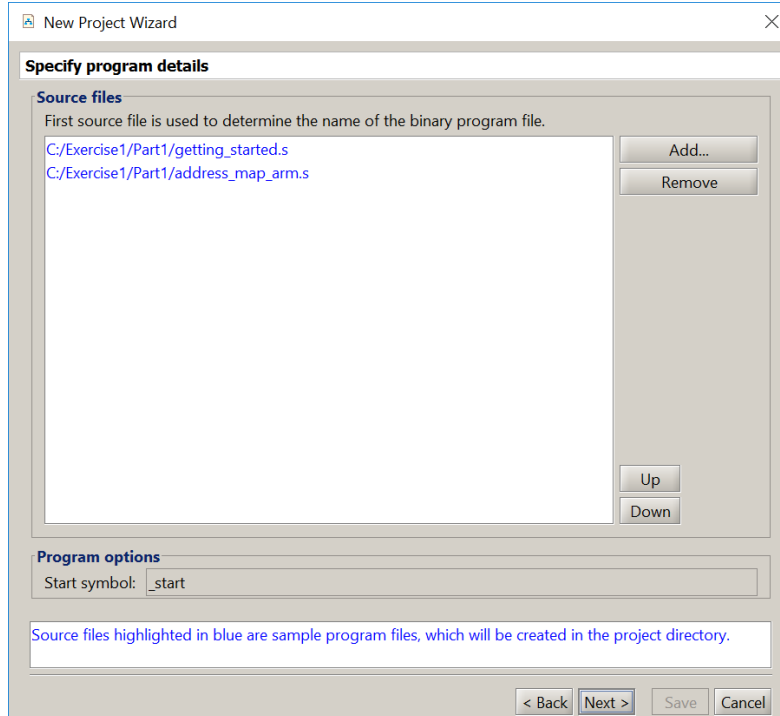
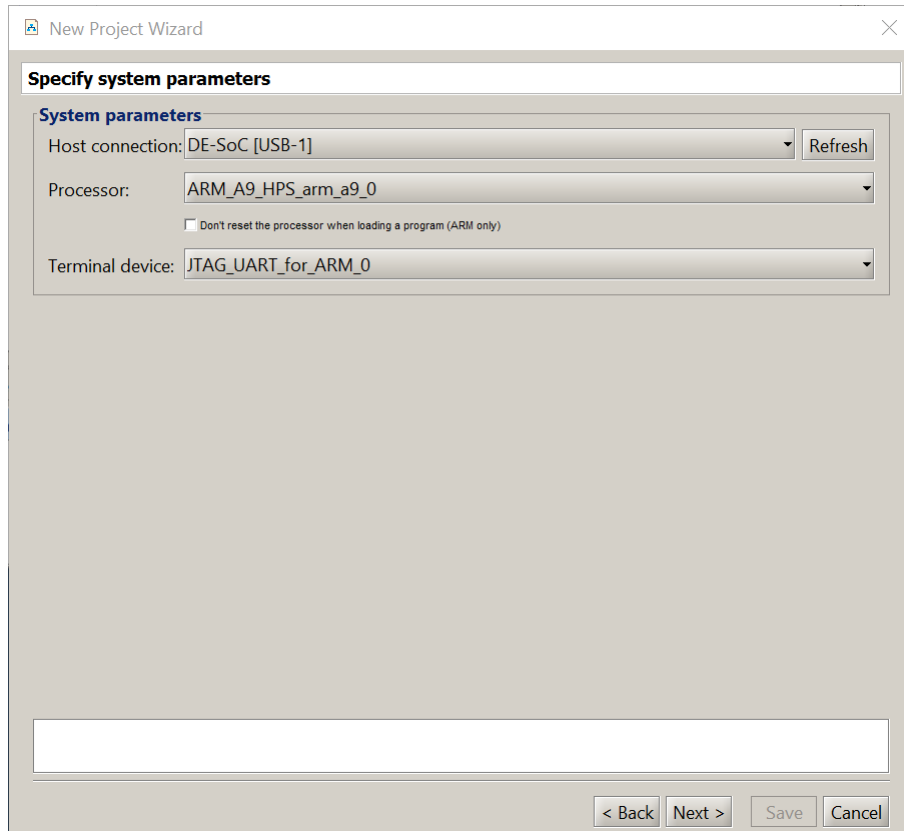
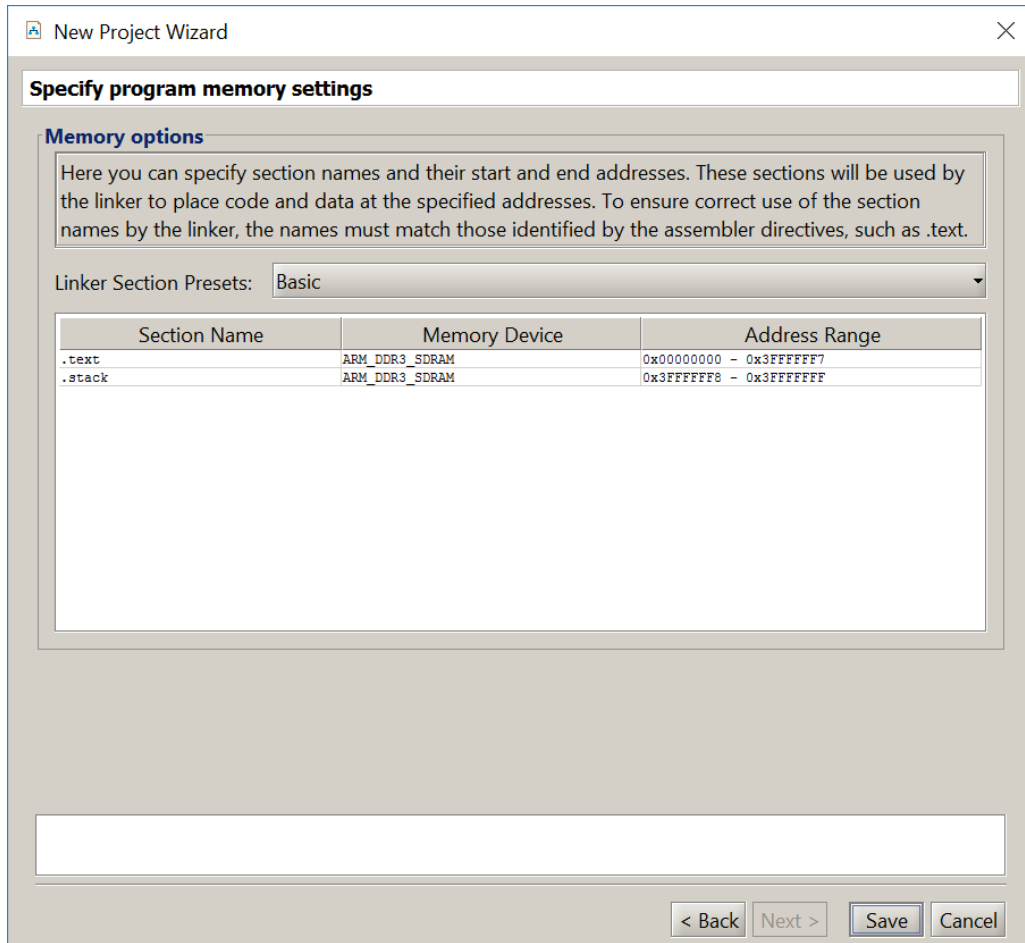

Figure 5: Source files used by the application program.
Figure 6: Specify the system parameters.
Figure 7: Specify the program memory settings.
5. The window in Figure 5 is used to specify the source file(s) that contain the application program(s). Since we have selected the *Getting Started* program, the window indicates the source code file for this program. This window also allows the user to specify the starting point in the selected application program. The default symbol is `_start`, which is used in the selected sample program. Click **Next**.
6. The window in Figure 6 indicates some system parameters. Note that the figure indicates that the *DE-SoC [USB-1]* cable is selected to provide the connection between the DE-series board and the host computer. This is the name assigned to the Intel USB-Blaster connection between the computer and the board. Click **Next**.
7. The window in Figure 7 displays the names of Assembly sections that will be used for the program, and allows the user to select a target memory location for each section. In this case only the *.text* section, which corresponds to the program code (and data), is defined. As shown in the figure, the *.text* section is targeted to the DDR3 memory in the DE-series board, starting at address 0. Click **Finish** to complete the specification of the new project.
2. Upon reaching the window in Figure 5, you have to specify the source code file for your program. Click **Add** and in the pop-up box that appears indicate the desired file name, *part2.s*. Click **Next** to get to the window in Figure 6. Again click **Next** to get to the window in Figure 7. Notice that the *DDR3_SDRAM*